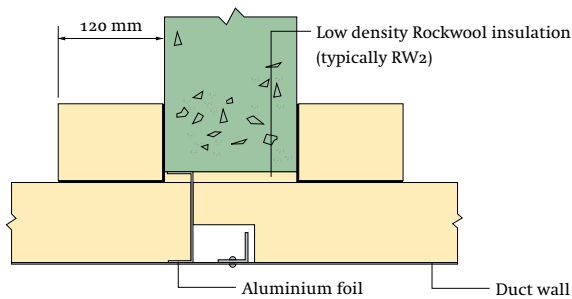

Figure 8 Steel angle frame support to duct at penetration mid point
- a $30 \times 30 \times 2$ mm mild steel angle frame fixed to the duct at the penetration mid point. Steel rivets should be used at 300 mm maximum centres (Figure 8),